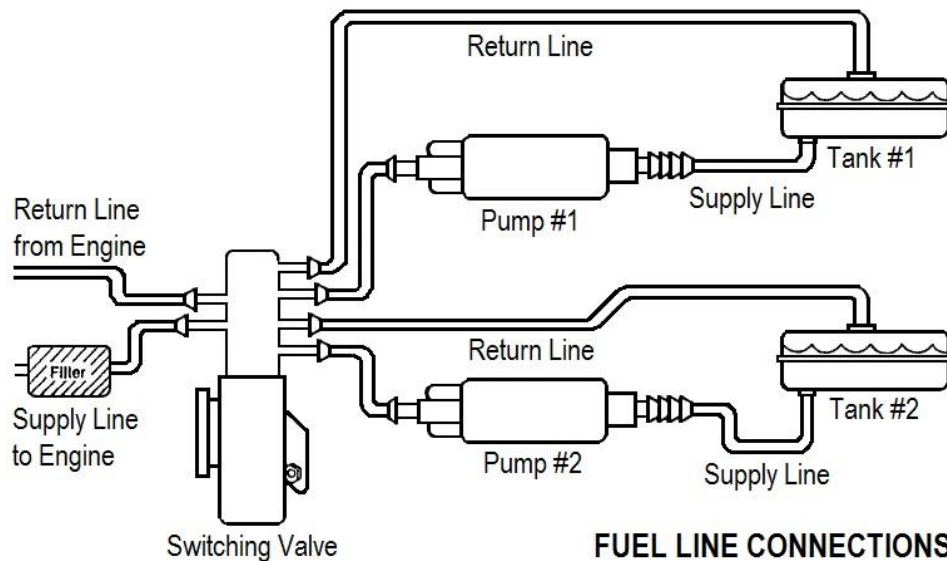

Figure 1
2. Make sure the pump inlets point towards the fuel tanks. Connect the fuel lines as shown in **Figure 1**. The supplied 100 Micron (or equivalent) pre-filter needs to be installed between the fuel tank and the fuel pump.